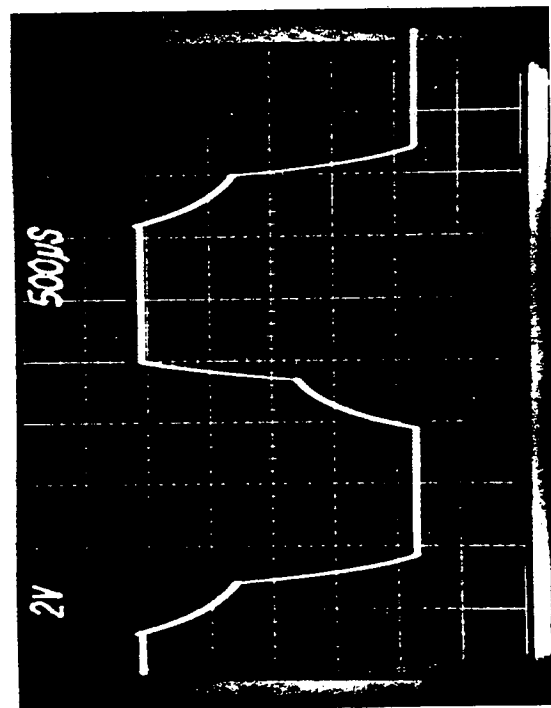

Figure 5-11
5. Check the signal on pin 1 of U2; it should be approximately as shown in Figure 5-11.